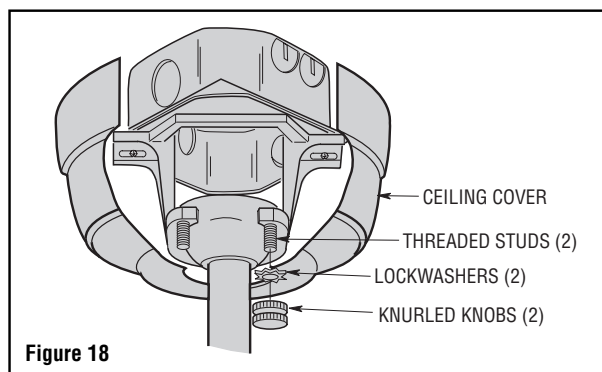

Figure 18
4. Lift the ceiling canopy up to the threaded studs and turn until studs protrude through the holes in the ceiling canopy (Figure 18).
5. Secure the ceiling canopy in place by sliding lockwashers over the threaded studs and installing the two knurled knobs (supplied). (Figure 18). Tighten the knurled knobs securely until the ceiling canopy fits snugly against the ceiling and the hole in the ceiling canopy is clear of the downrod.